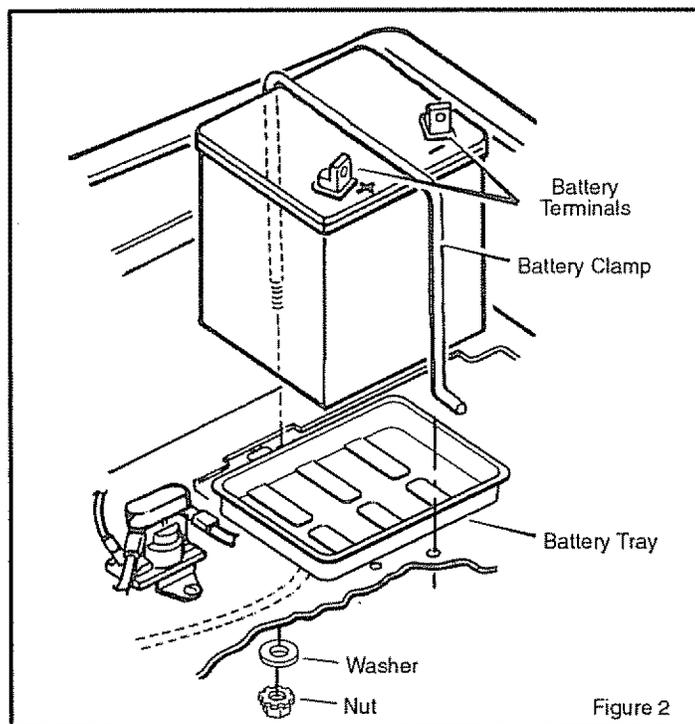

Figure 2
1. Remove the **battery clamp** from the battery (Figure 2).
1. Set the **battery** in the **battery tray**. Make sure the **battery terminals** are toward the center of the frame (Figure 2). Make sure there are not any wires under the **battery** or the **battery tray**.